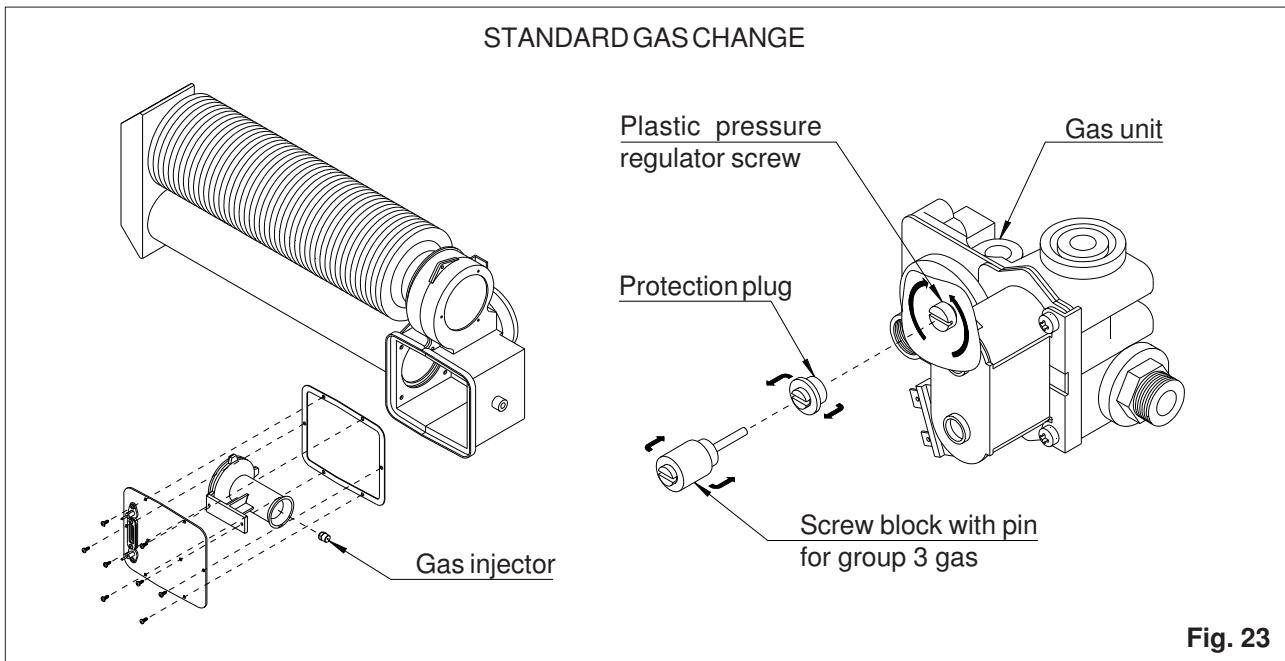

Fig. 23
- d)** remove the 6 screws which attach the burner support plate to the combustion chamber. Pull it out making sure not to damage the seal gasket. Disassemble the gas injector using a 10 mm hex wrench and replace it with the new one, then re-tighten it to ensure a proper seal (*fig. 23*)
f) unscrew the pressure regulator protection plug located on the gas unit. With care, fully tighten the plastic screw of the pressure regulator. Insert the screw block with pin instead of the protection plug to put the regulator out of service (*fig. 23*). **Keep the pressure regulator protection plug for future use**
- c)** remove the 6 screws which attach the burner support plate to the combustion chamber. Pull it out making sure not to damage the seal gasket. Disassemble the gas injector using a 10 mm hex wrench and replace it with the new one, then re-tighten it to ensure a proper seal (*fig. 23*)
- e)** on the gas unit, remove the screw block with pin located on the pressure regulator to reset regulation operation (*fig. 23*)